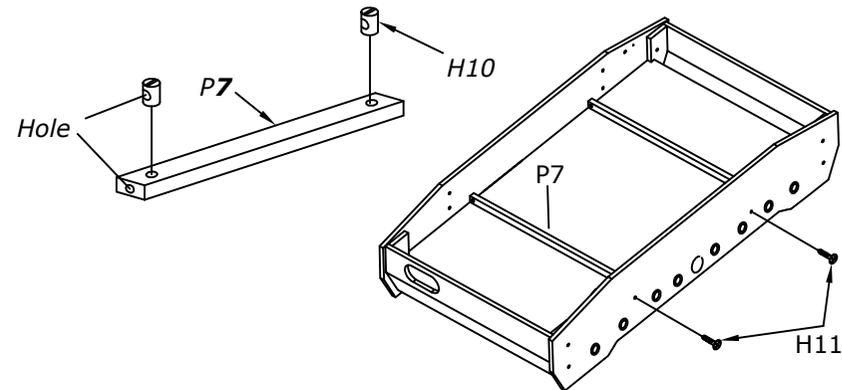

FIGURE 3
3. Insert the nut **H10** into the hole of the support braces **P7** as shown in **figure 3**. The hole of the nut align the hole of the braces. Place the playfield supports **P7** on the bottom of the playfield and attach it with screws **H11** as shown in **figure 3**.